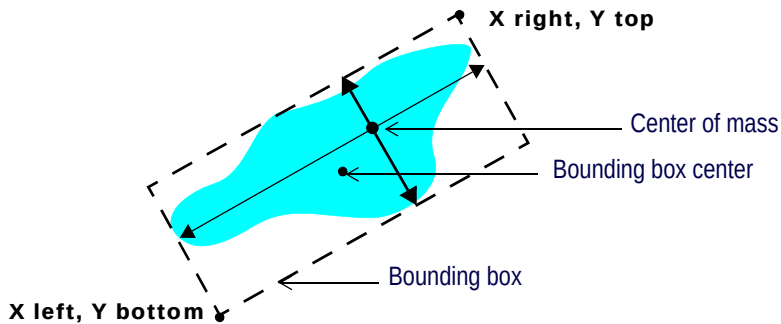

Figure 331 Bounding Box
- **Center X** and **Center Y** are the X and Y coordinates of bounding box center with respect to the principal axes. This does NOT correspond to the center of mass. See Figure 331.
The bounding box defines the smallest rectangle, aligned with the Tool coordinate system, that can enclose the blob, as shown in Figure 331.